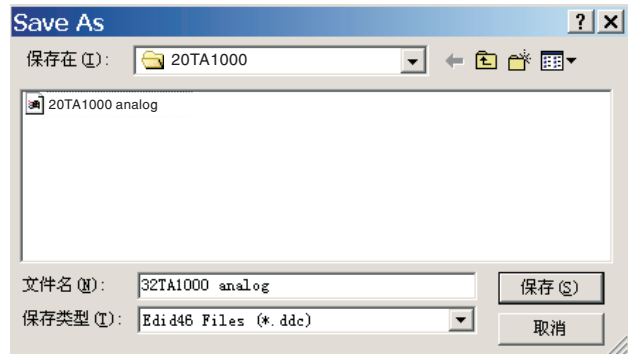

Fig. 25
1. Click  (Save) icon (or click "file"-> "save as") from the tool bar and give a file name as shown in Fig. 25.